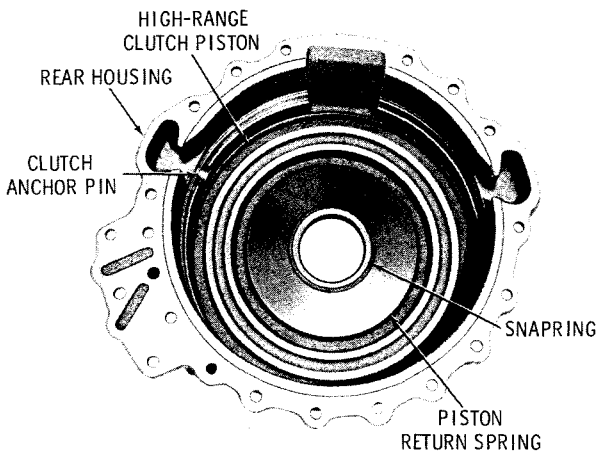

Fig. 5-20. Rear housing and piston assembly (-1 model)
(7) Depress the inner diameter of the clutch piston return spring and remove the snapping and return spring (fig. 5-20).
(8) Remove high-range clutch piston assembly (fig. 5-20). Remove the hook-type sealing from the housing inner hub. Refer to paragraph 6-11 for rebuild of the clutch piston and to paragraph 6-23 for rebuild of the rear housing assembly.